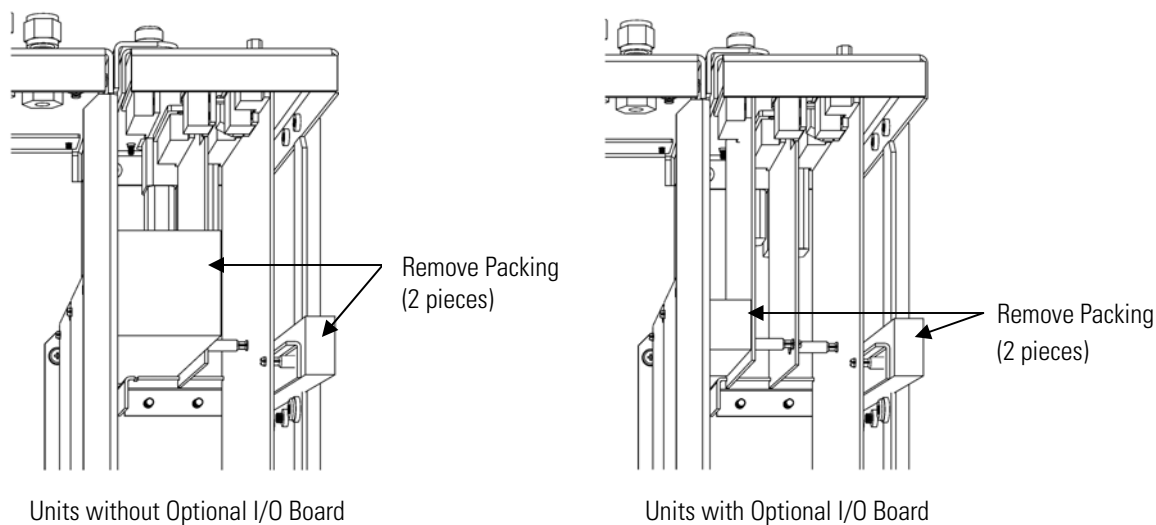

Figure 2–1. Remove the Packing Material
1. Connect the sample line to the SAMPLE bulkhead on the rear panel (Figure 2–2). Ensure that the sample line is not contaminated by dirty, wet, or incompatible materials. All tubing should be constructed of FEP Teflon®, 316 stainless steel, borosilicate glass, or similar tubing with an OD of 1/4-inch and a minimum ID of 1/8-inch. The length of the tubing should be less than 10 feet.